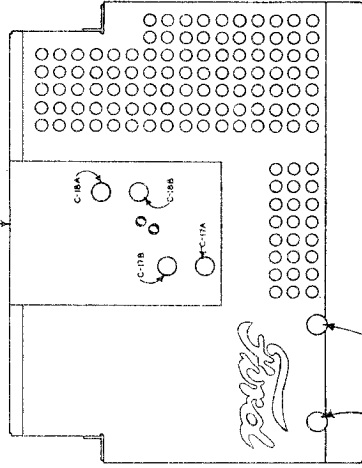

FIG. 5 TOP VIEW OF SET
3. Adjust trimmers C-18 A&B and C-17 A&B for maximum response. (See Fig. 5.)